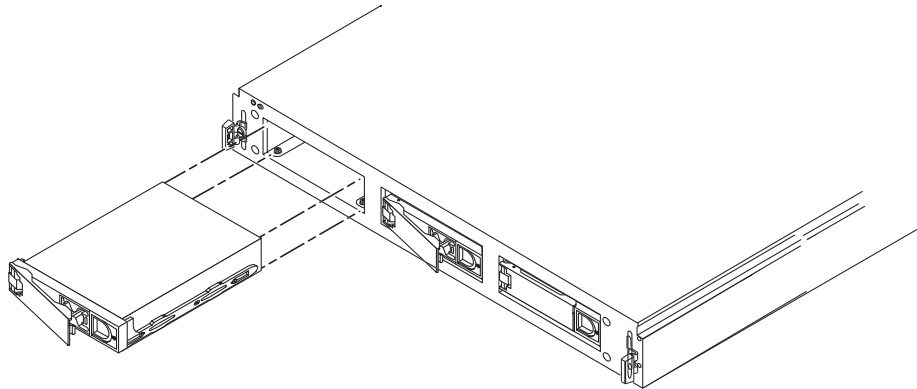

FIGURE 4-1 Adding a Disk Drive
5. **Open the locking handle on the disk drive by sliding the latch in the direction marked on it** (FIGURE 4-1).